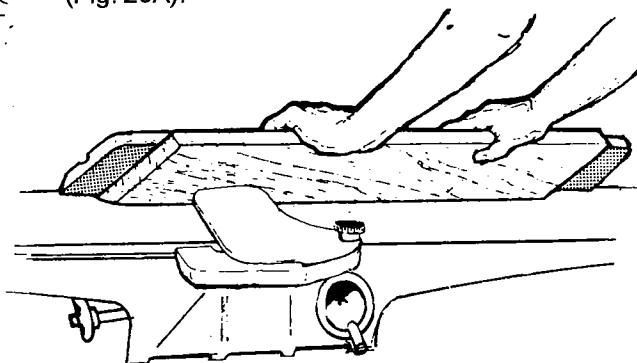

FIGURE 20A
**CAUTION:** Set fence to desired angle. Although fence may be tilted in or out for bevel cut, POWERMATIC recommends for safety reasons the fence be tilted in, if possible, making a cradled cut (Fig. 20A).